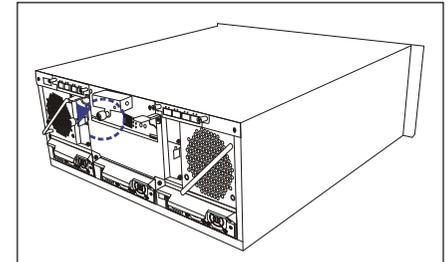

Figure 12: Removing the BBU Slot Dummy Plate
Step 1. Remove the BBU slot dummy plate by loosening the hand screw located on the rear of the plate, then pull it out of the chassis. (See **Figure 12**)